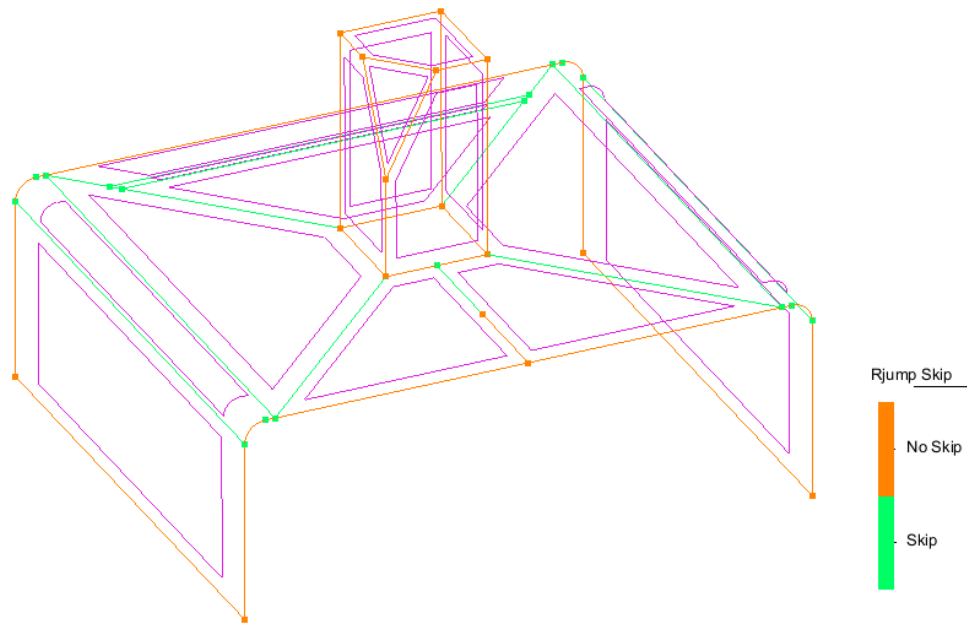

Figure 13. Entities that will be skipped and not skipped using the RJump mesher.
- 2 . Select **Mesh->Draw->Skip entities (Rjump)** to display the entities that will and will not be skipped in different colors. As is shown in Figure 13, line 43 will now not be skipped; the rest of the lines are unaffected, and RJump will either skip or mesh them according to its criteria.